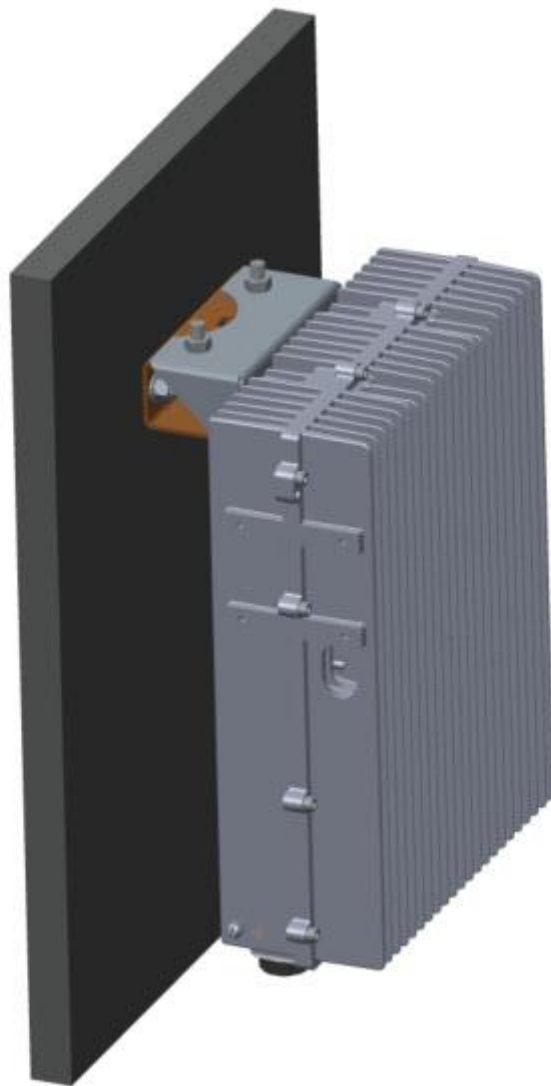
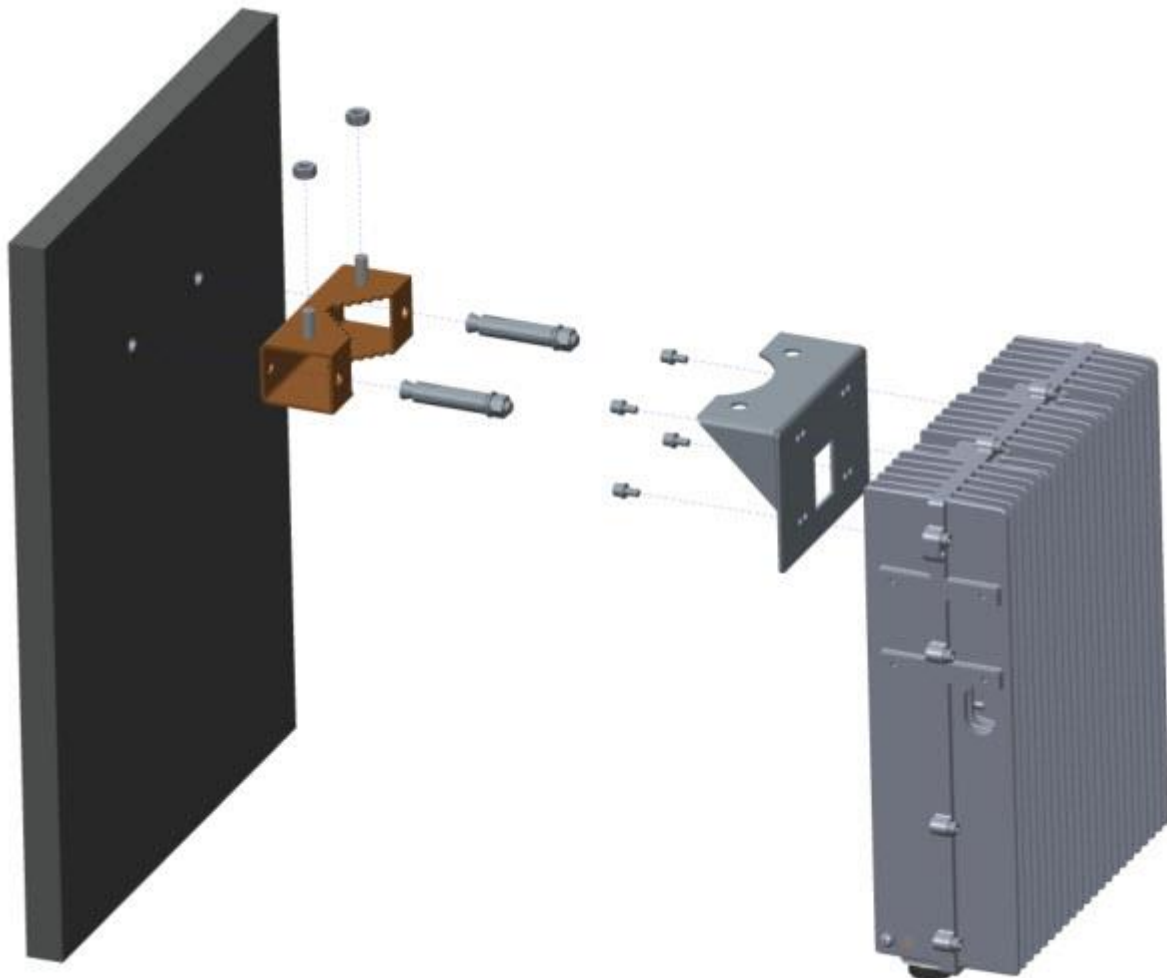

Figure 6-2 Schematic of RU Wall Front-mounting Installation
Figure 6-3 Exploded View of RU Front-mounting Installation
1) Front-mounting Installation (see Figure 6-2, Figure 6-3):